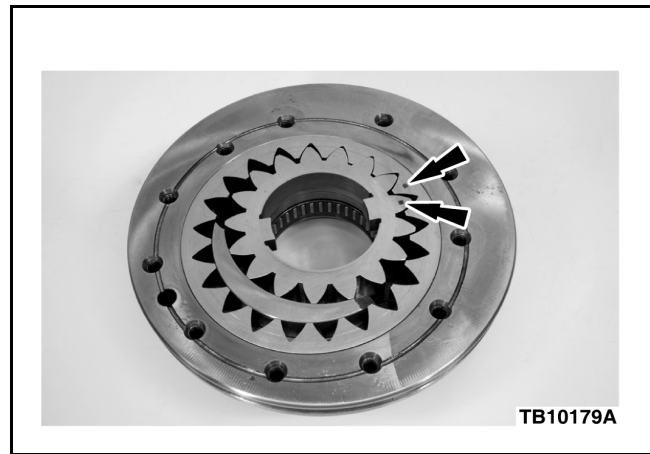

Figure 4 - Article 12-11-14
- a. Verify both inner and outer gears have the Dot facing up on the new pump body and gears. Use care to keep pump gears from falling out of pump body. (Figure 4)